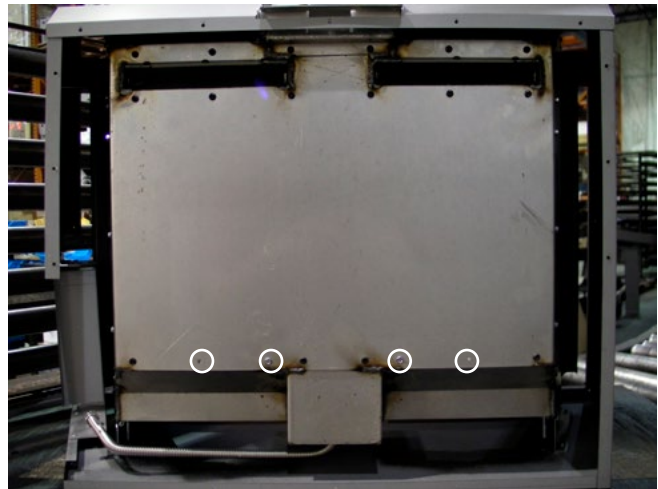

Figure 5
- 5). Remove the four screws highlighted in **Figure 5**.